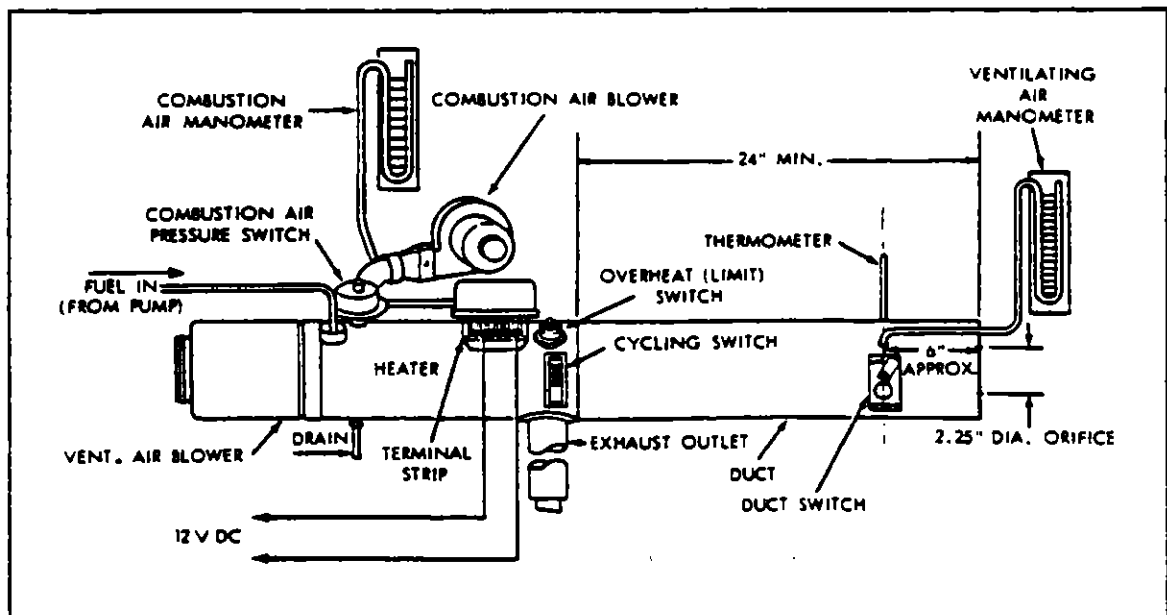

Figure 13-27. Suggested Set-Up for Heater Operation Test
m. Using a new spark plug gasket, install the spark plug (22) and tighten to a torque of 28 foot pounds. Install the grommet (23) in the jacket around the spark plug.
n. Install the ignition assembly (18) on the jacket assembly (84) with the four screws (20) and lockwashers (21). Connect the high-voltage lead to the spark plug and tighten it to 20 foot pounds.
o. Attach the radio-noise filter (24) to the jacket assembly (84) with the two screws (25) and lockwashers (26).
p. Attach the overheat limit switch (27) and spacer gaskets (31) to the jacket assembly (84) with the two screws (28), lockwashers (29) and flat washers (30). Tighten the screws securely.
q. Attach the cycling switch (32) to the jacket assembly (84) with the two screws (33), lockwashers (34) and flat washers (35).
r. Place the terminal strip insulation (39) in position on the jacket (84), followed by the terminal strip (36). Secure both parts by installing the two screws (37) and lockwashers (38). The two screws are located at two diagonal corners of the terminal strip.
s. Center the fuel fitting in jacket opening. Place the fuel fitting shroud gasket (46) and shroud (43) on the fuel fitting and install the nut (44) finger tight. Insert a 3/4 inch open-end wrench inside the jacket and hold the fuel-tube fitting while tightening the nut (44) with a 3/4 inch deep socket. Install the reducer fitting (42).
t. Rotate the combustion air switch (41) onto the threaded fitting on the combustion air tube and tighten it firmly.
u. Slide the grommet (47) over the combustion air tube and connect the tube to the elbow fitting (40) on the combustion air pressure switch (41).
v. Install the wiring harness and connect all wire leads to their respective terminals. (Refer to the wiring diagram, Figure 13-19.) Place the grommet (47, Figure 13-27) in position in the jacket (84), locate the ventilating air blower (49) at the end of the jacket. Thread the quick-disconnect on the wiring harness through the grommet (47) and connect it to the mating connector on the motor lead.
w. Place the blower housing in position on the jacket assembly (84) and secure it by installing the four screws (48), if removed at disassembly. This operation is easier if the screws (48) are started into their threads and the blower housing rotated into place, allowing the screws to enter the notched openings in edge of blower housing. Tighten all screws securely.
x. Install the elbow adapter (3) with the screw (4).
13-119. EQUIPMENT REQUIRED. (Refer to Figure 13-27.)
- f. A piece of duct to be attached to the downstream end of the heater. It should have a minimum length of 24-inches and the same diameter as the heater being tested. A 2.25-inch diameter orifice should be centrally located at the outlet end. An aperture should be provided for the thermometer and duct switch, and a static tap should be attached as shown in Figure 13-27.
13-120. OPERATIONAL TEST. (Refer to Figure 13-27 and 13-28.)
- a. Connect the heater to the test setup as shown in Figure 13-27. Make sure the combustion air blower is mounted securely and that the heater is clamped to its supporting stand.
- b. Insert the duct switch in the sheet-metal extension tube at the location shown in Figure 13-27.